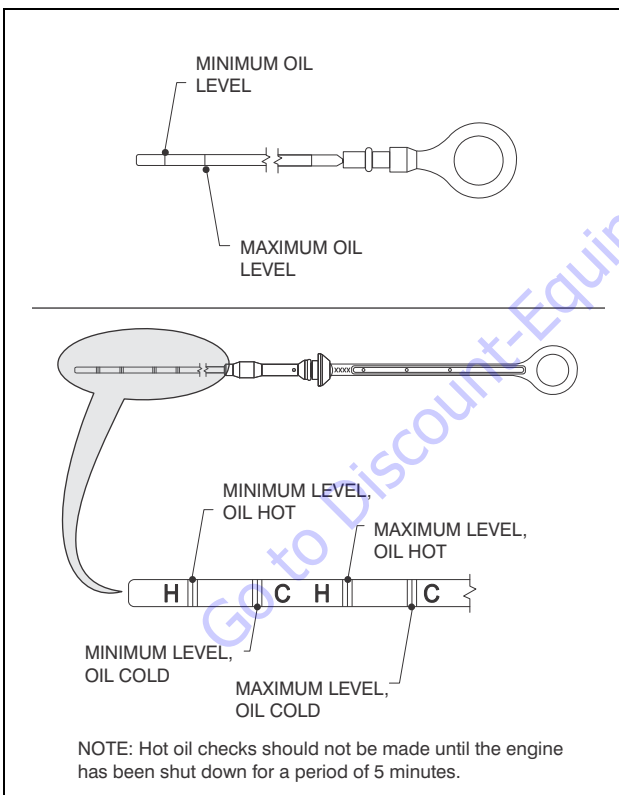

Figure 3-89. Deutz Engine Dipstick
5. Insert the dipstick to the stop and remove again. Check the oil level, and if necessary, top the oil level up to the MAX mark with an approved grade and type of oil as outlined in the engine manufacturer's operator's manual. Refer to Figure 3-89., Deutz Engine Dipstick.